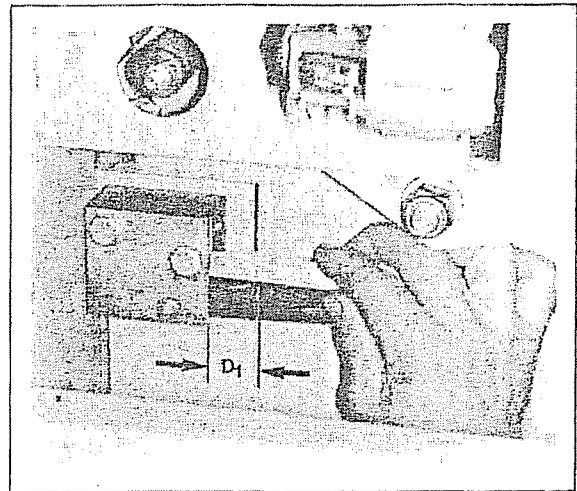

Figure 28
5. Move the cross links as far to the left as they will go. Measure the distance D_1 between the stop block surface and the surfaces of the cross links which come into contact with the stop screw. See Figure 28.